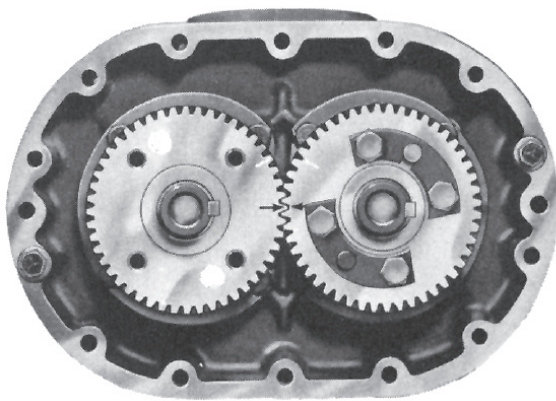
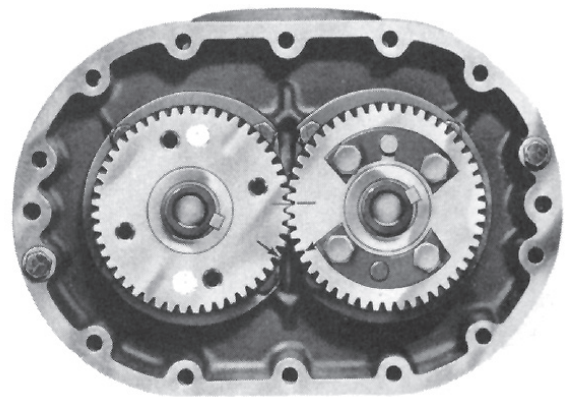

Figure 9-1 – Keyways in line and timing marks matched
Figure 9-2 – Timing marks advanced 3 teeth (reference marks aligned)
14. Position the timing gears for pulling by first matching the timing marks on the gears. **See Figure 9-1.** Turn the drive gear clockwise three teeth, and mark a matching reference line on each gear as shown in **Figure 9-2.** The rotor lobes are now in their most open position. The driven gear (left hand helix) may now be removed with a gear puller without jamming the rotors. This gear is in two parts – the gear rim and hub. It is not necessary to disassemble. Do not allow the gears to move from the matched reference line while pulling. Use a light rocking motion while pulling the gear to ensure that the lobes have not jammed.
- Install the drive gear (right hand helix) on drive rotor (left side). To install the driven gear, align the reference marks as shown in **Figure 9-2**. Install the driven gear carefully to avoid damaging any teeth when engaging the opposite gear. Secure with gear lockwasher and lock nut.